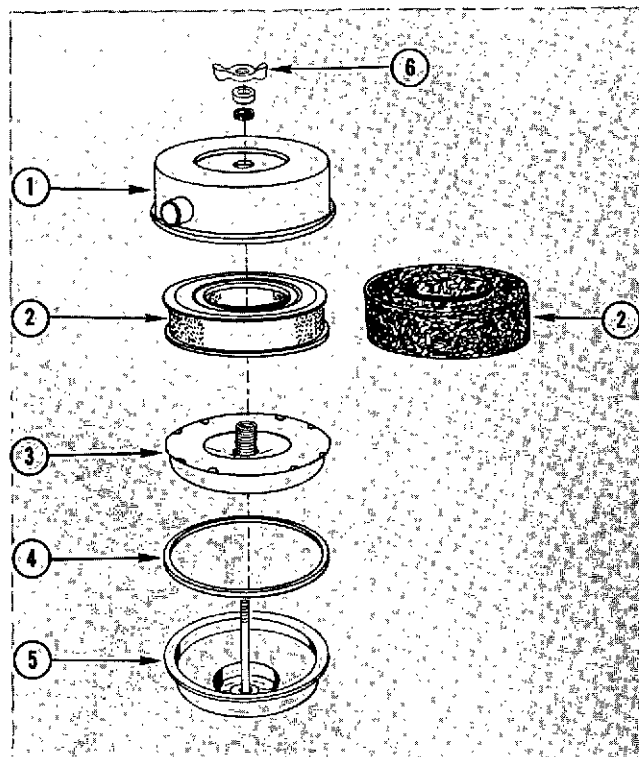

Fig. 2-17 (V51909) Crankcase breather — mesh element with vapor barrier
1. Remove wing nut (6, Fig. 2-17), flatwasher and rubber washer securing cover (1), to breather body (5).
2. Lift off cover and lift out breather element (2), vapor element (3) and gasket (4).
5. Install cleaned or new breather element (2, Fig. 2-17) and cleaned vapor element (3) to breather body (5).
6. Install rubber gasket (4) in cover (1), position cover assembly to body (5).
7. Install rubber washer, flatwasher and wing nut, (6); tighten securely.